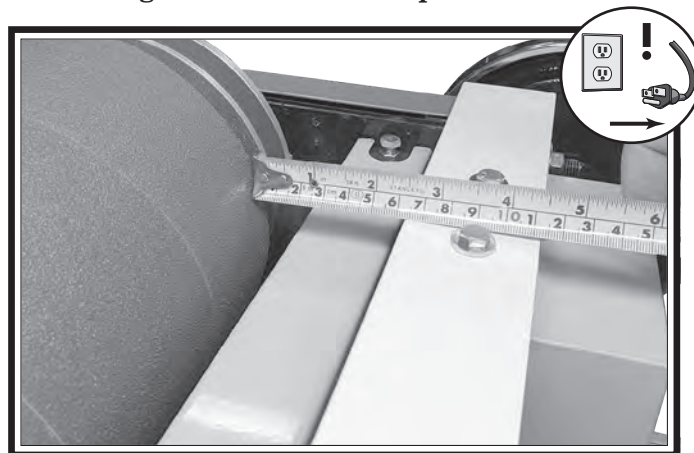

Figure 38. Example of measuring front drum to brace.
2. Measure distances between closest point of outside of front sanding drum and inside of front brace on both ends of drum, as shown in **Figure 38**.